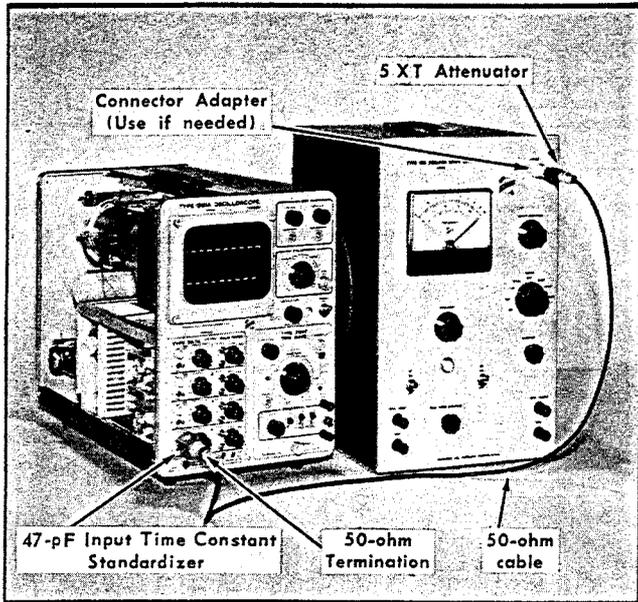

Fig. 7-5. The manner in which the Type 105 Square-Wave Generator should be connected to the Type 3A74 when preparing to adjust C416 (step 13f) in channel 4.
- b. Connect a 5XT attenuator (item 10) to the output connector of the generator. Use the connector adapter (item 13) if the generator has a UHF jack output connector.
- c. Connect one end of a 50-ohm coaxial cable to the 5XT attenuator and connect the other end of the cable to a 47-pF Input Time-Constant Normalizer (item 9).
- d. Connect the other end of the normalizer to the channel 4 Input connector. Fig. 7-5 shows the entire setup.
After completing the channel 4 adjustments, decrease the Type 105 output signal level to minimum and apply the signal to channel 3. (Use the same setup as shown in Fig. 7-5 except that the signal is applied to channel 3.) Set channel 4 MODE switch to OFF and channel 3 MODE switch to NORM. Perform the channel 3 adjustments in the same manner as described for the channel 4 adjustments. Then, repeat the procedure for channels 2 and 1.
- d. Connect the plug-end of the termination to the channel 1 Input connector. (This setup is similar to Fig. 7-5 except the 47-pF Input Time Constant Normalizer is not used.)